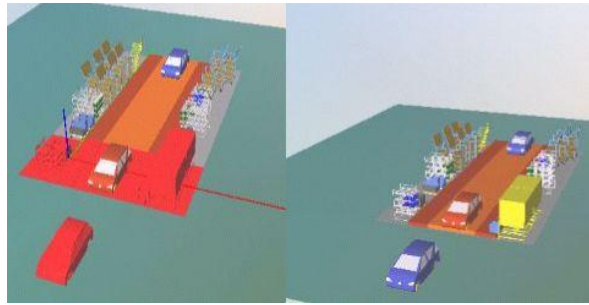

Figure 68: Repositioning two Objects from two Graphic Objects
- 5) Left-click in the empty graphic to undo the selection. *Please refer to the Figure 68.*